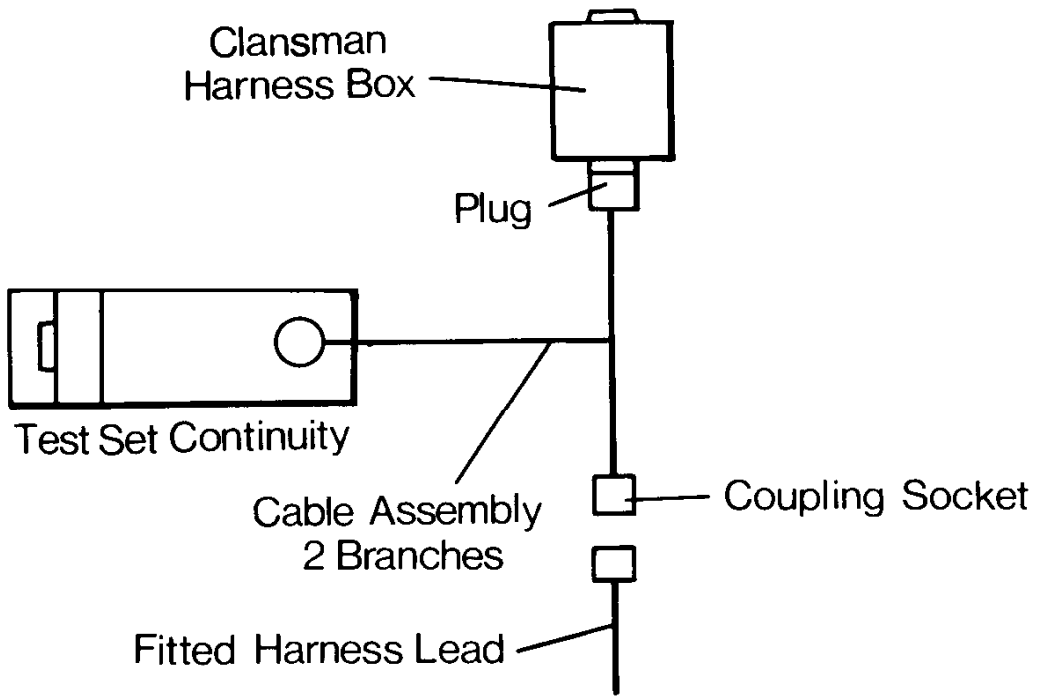

Fig 83.—Test Set 18V DC Harness Connection
- a. The 18V DC supply available at the *HARNESS* socket of any installed CLANSMAN harness containing an IB2 or IB3 box, using the *CABLE ASSEMBLY, 2 branches*, (see Fig 83).